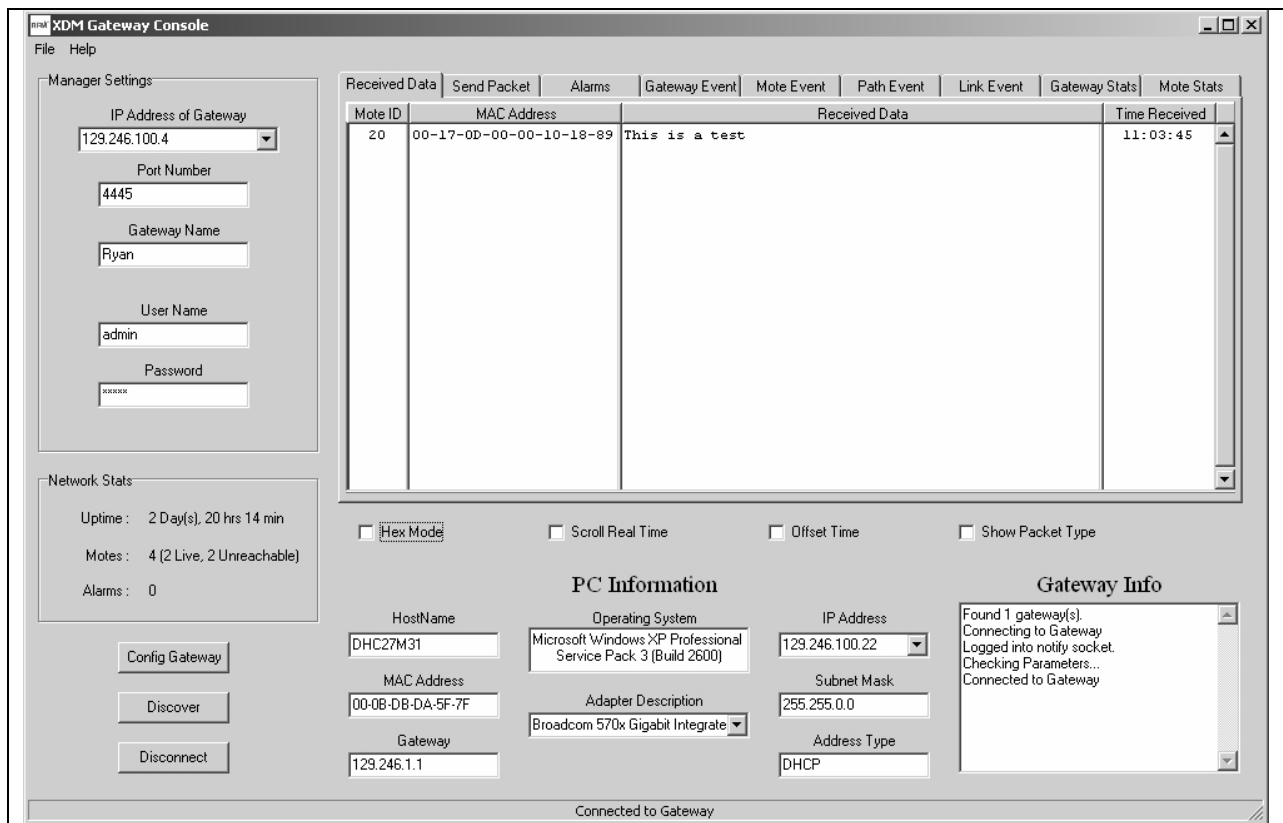

Figure 9.1.6
9. Restore the *xdmconsole* window and observe the message received from the XDM2510H under the Received Data tab as shown in Figure 9.1.6. Note that the Mote ID (network address) assigned to the XDM2510H is displayed in hexadecimal on the left side of the *xdmutility* window and in decimal in the Mote ID column in *xdmconsole* window. Test messages from the other three XDM2510H development boards can be sent to the XG2510HE gateway by moving the serial cable to each of them.